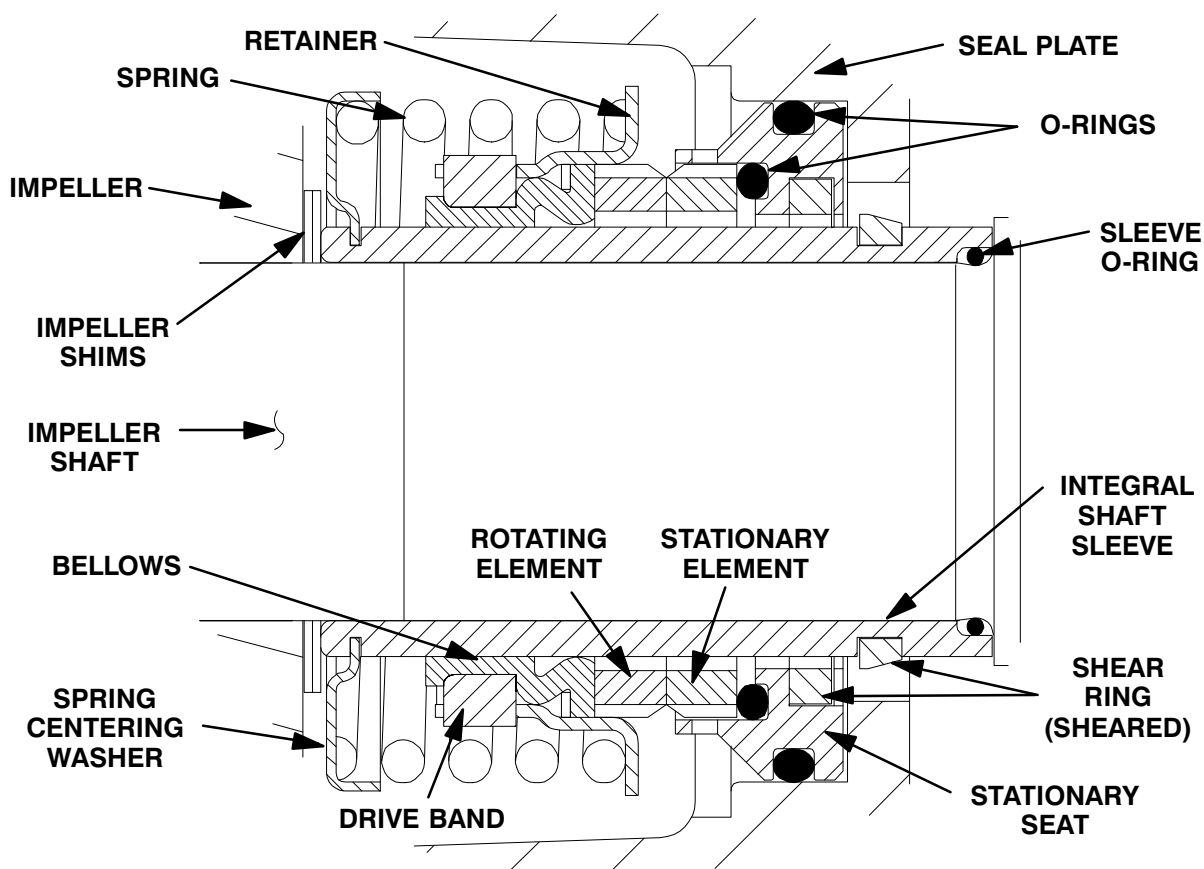

Figure 8. 46513-151 Cartridge Seal Assembly
To ease installation of the seal, lubricate the shaft sleeve O-ring (30) and the external stationary seat O-ring with a very **small** amount of light lubricating oil. See Figure 8 for seal part identification.